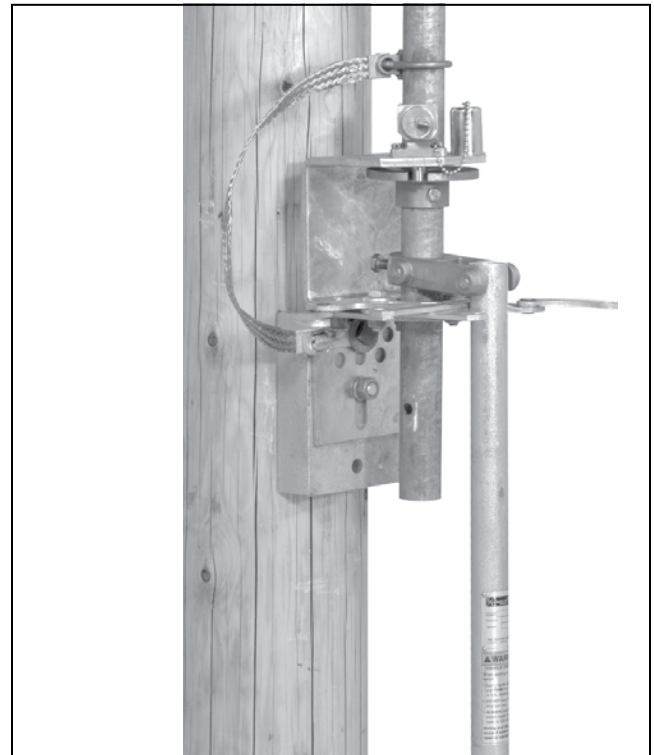

Figure 42. Disengaging the key interlock bolt.
STEP 34. If the operating handle assembly is furnished with a key interlock, disengage the interlock bolt. See Figure 42.